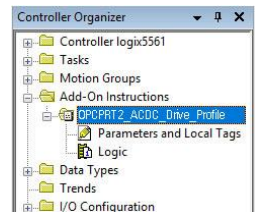

Figure 46: AC/DC Drive Profile Add-On Instruction
- 2) Right click on "Add-On Instructions" in the controller organizer view and select "Import Add-On Instruction". Browse and import the AC/DC drive profile add-on instruction. Refer to Figure 46.